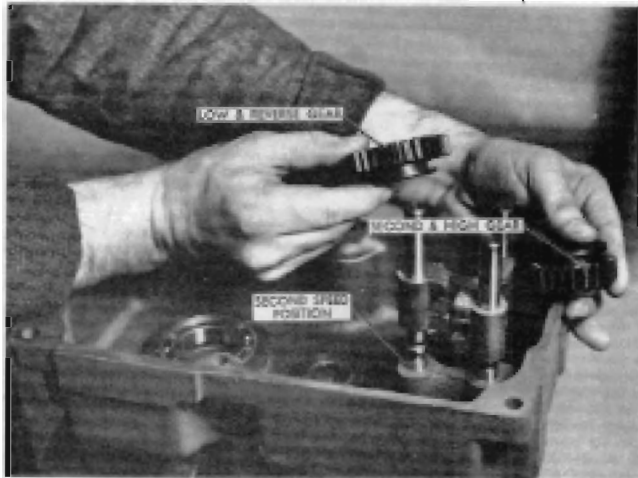

FIGURE 16
5. Shift the 2nd and high shift fork into the 2nd speed position and install the 2nd and high sliding gear, and the low and reverse sliding gear in position on their respective forks, Figure 16. Note that the shift fork grooves of the sliding gears face each other, and that the smaller of the two gears is the 2nd and high gears which goes on the bottom.